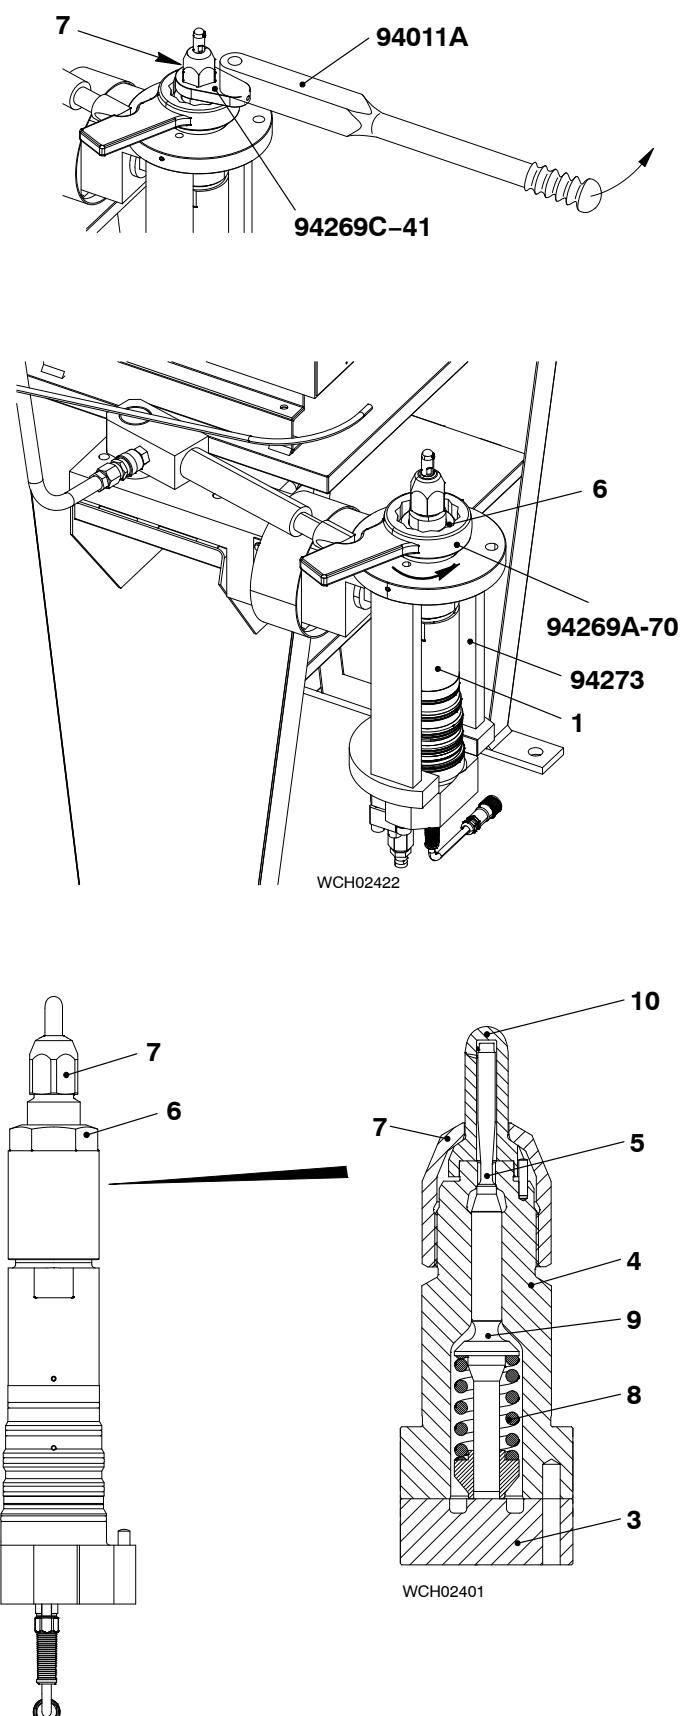

Fig. 2
- 5) Turn the valve holder through 180° into the vertical position (see Fig. 2).
- 6) Use a torque spanner 94011A and adapter 94269C-55 to carefully loosen the locknut (7) (AF55).
- 7) Use the wrench 94269A-65 and the hydraulic cylinder 94269B to loosen coupling nut (6).
- 8) Remove the locknut (7) and the coupling nut (6).
- 9) Remove the nozzle body (4) together with the:
- Intermediate plate (3)
- Compression spring (8).
- Tappet (9)
- Needle (5)
- Nozzle tip (10).